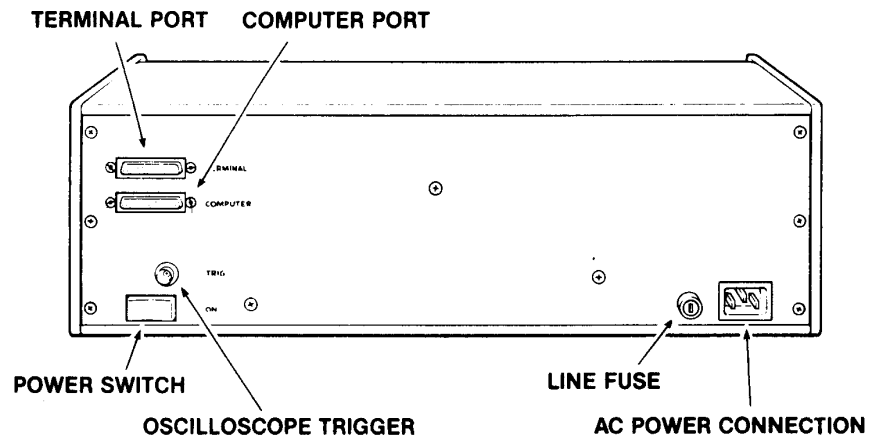

Figure 2-1
2.3.1 The Rear Panel The rear panel of the Satellite Emulator is shown in Figure 2-1. The two serial ports are labeled **TERMINAL** and **COMPUTER**, to signify which is used for connection to a CRT terminal and which is for a host system, printer, or other source of data files. Be sure all peripherals are connected to the proper serial port.